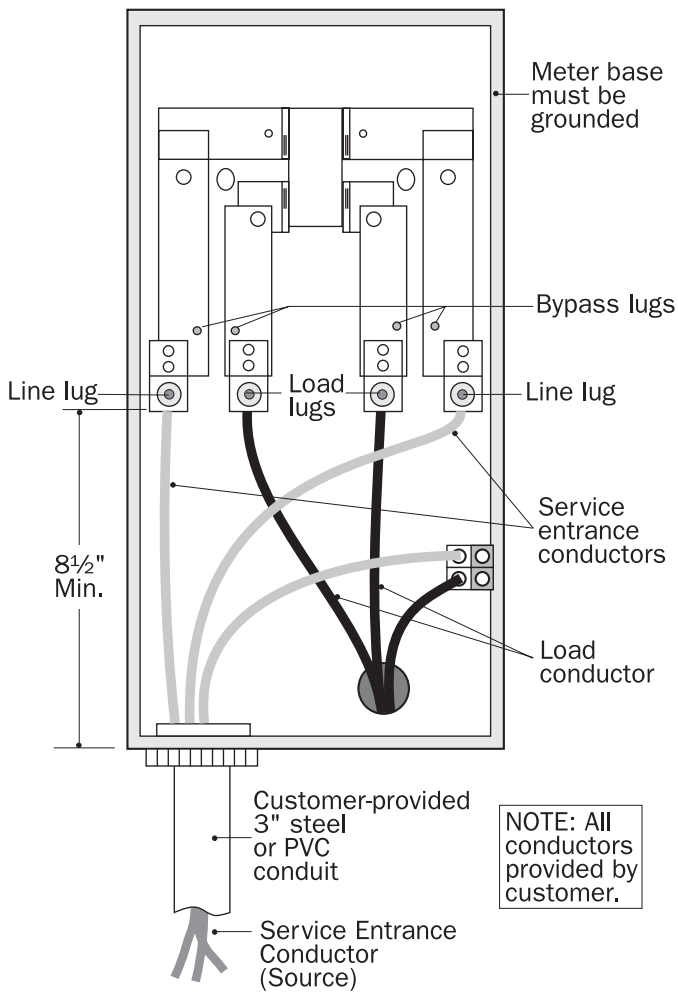

Figure D-4.
The meter base required for a 120/240 volt, 400 ampere service is a "Class 320" meter base (see Figure D-4). It is larger than the 200 amp meter base, but it is still a self-contained meter base (it doesn't require instrument transformers). It can be installed on residences where the continuous current rating is 320 amps or less. If your structure will require more than 320 amps continuous, you are required to install an instrument transformer (CT or PT) service.
- Contain a Class 320 manual bypass (see Figure D-4).
- Have a least 8-1/2 inches of clearance between the bottom of the lugs and bottom of the enclosure (see Figure D-4).